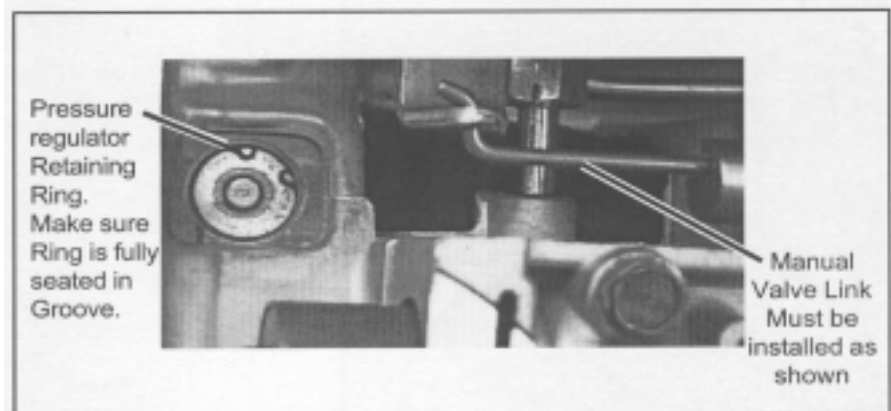
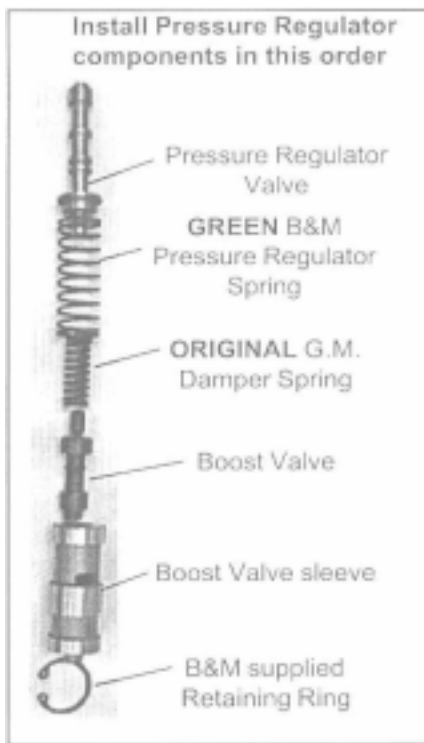

Figure 3.
Figure 4
STEP 7. Heavy Duty and Street; Remove the snap ring at the end of the pressure regulator bore (See Fig. 3). Use a screwdriver to push against the spring loaded Boost Valve sleeve while removing the retaining ring. Remove Boost Valve Sleeve and Valve and the Pressure Regulator Spring. The Pressure Regulator Valve may fall out but it does not have to be removed. Reassemble the pressure regulator assembly as shown (See Fig. 4) using the GREEN Pressure Regulator Spring from the kit. Use the new retaining ring included with kit. Important: Make sure the retaining ring is fully seated in its groove when assembled. If the retaining ring is not fully seated in its groove, the pressure regulator assembly will blow out of its bore resulting in NO LINE pressure.
12). With the 3-4 Accumulator components and the case check ball in place, Place the Separator Plate and gasket assembly up to the case followed by the 1-2 Accumulator Housing assembly. Carefully line up the gaskets and install accumulator housing and support plate. Tighten bolts finger tight ONLY (See Fig. 2). STEP 15. Make sure Valve Body check balls are in correct locations (See Fig. 12). Position the manual valve so the manual valve link can be engaged (See Fig. 4). The manual valve link must be placed into the hole in the manual valve at a right angle to valve axis, then rotated 90 degrees to allow the valve to enter the manual valve bore. Do not force valve or link at any time. When the valve is fully engaged, align the valve body and case holes and install one bolt finger tight to hold valve body in place. Refer to your sketch and notes to properly position wire harness clips and solenoid connectors. Install all of the remaining bolts finger tight to finish lining up the separator plate and gaskets (See Fig. 2). Tighten all the valve body, accumulator and support plate bolts to 11 Nm (8 Lb. Ft.). Avoid striped threads. Do not over tighten bolts.